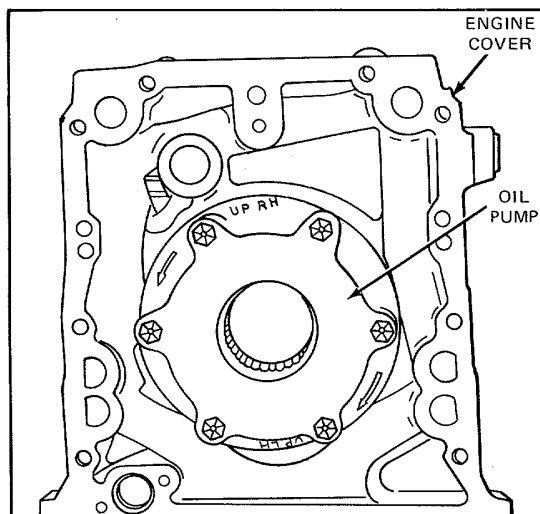

Figure 1. Typical Right-Hand Rotation
6. Remove the six bolts and lock-washers (if used) which attach the pump assembly to the engine front cover (Fig. 1) and withdraw the pump assembly from the cover.